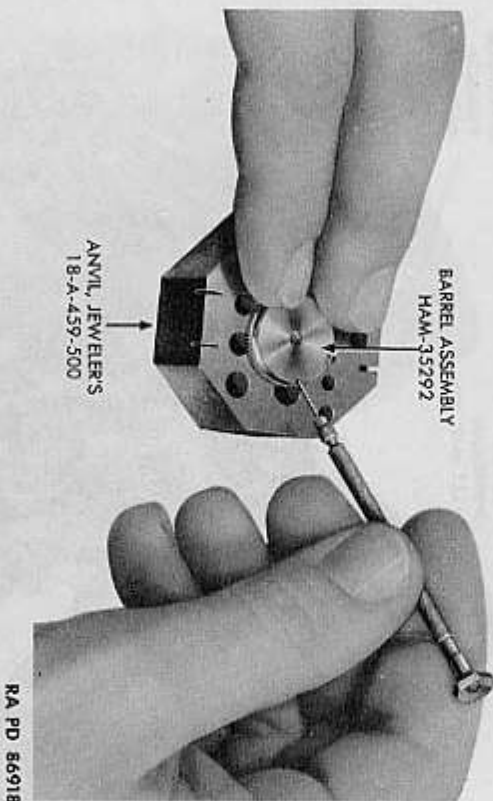

Figure 71 — Removing Mainspring Barrel Cap
s. Remove Mainspring From Barrel (fig. 71). Hold the mainspring barrel between the thumb and index finger, while the barrel is supported on the anvil, and place a screwdriver of the proper size within the slot provided in the cap and pry off the cap. Remove barrel arbor, grasp the inside coil of the mainspring with tweezers, and pull it out of the barrel slowly, letting it uncoil as it comes out of the barrel. Refrain from handling mainspring with bare fingers as much as possible.